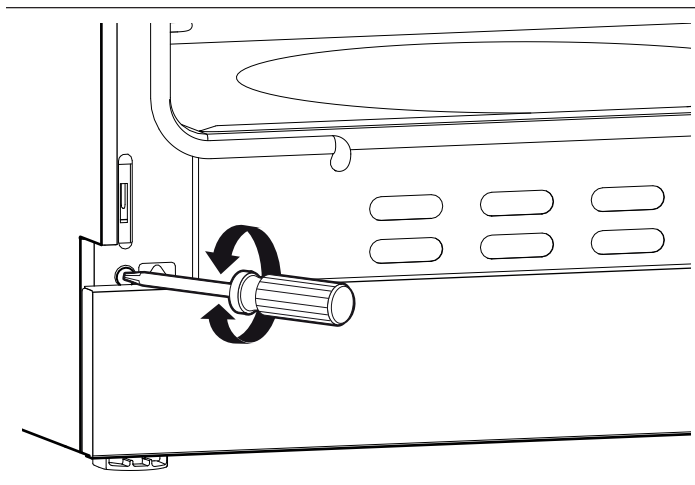

Figure 20: Hinge Receiver Adjustment Screw
- If door or handle appears slightly tilted, you may adjust the hinge receiver by rotating the large Torx-head screw located directly below the hinge receiver with a T-20 Torx driver. Rotate each screw respective to its side and direction the door needs to be adjusted (Figure 20).